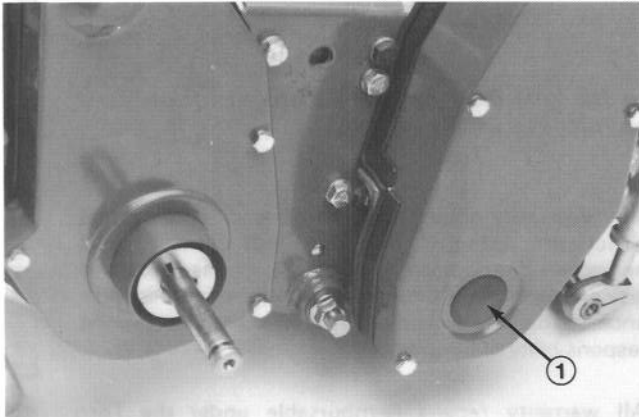

Figure 45
1. Remove plug in right reel drive cover (Fig. 45)